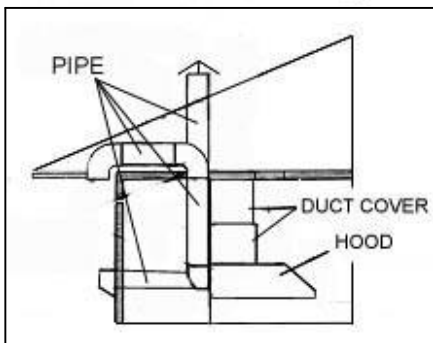

Figure 21
- Decide the location of the venting pipe from the hood to the outside. Refer to Figure 21.